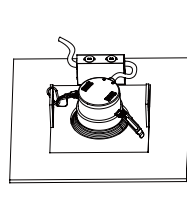

Fig. 6
- Step 6:** Once lamp is inside the housing, release the housing clips and continue pushing lamp into housing until securely fixed and flush with ceiling (Fig. 6).